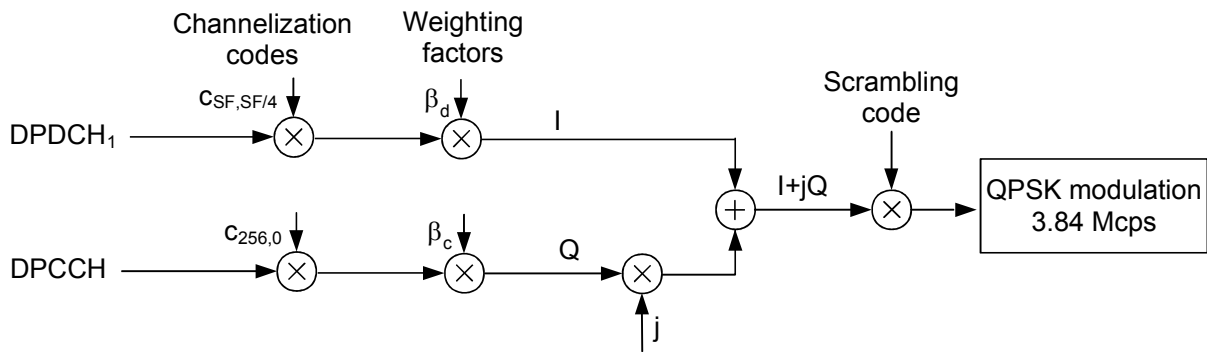
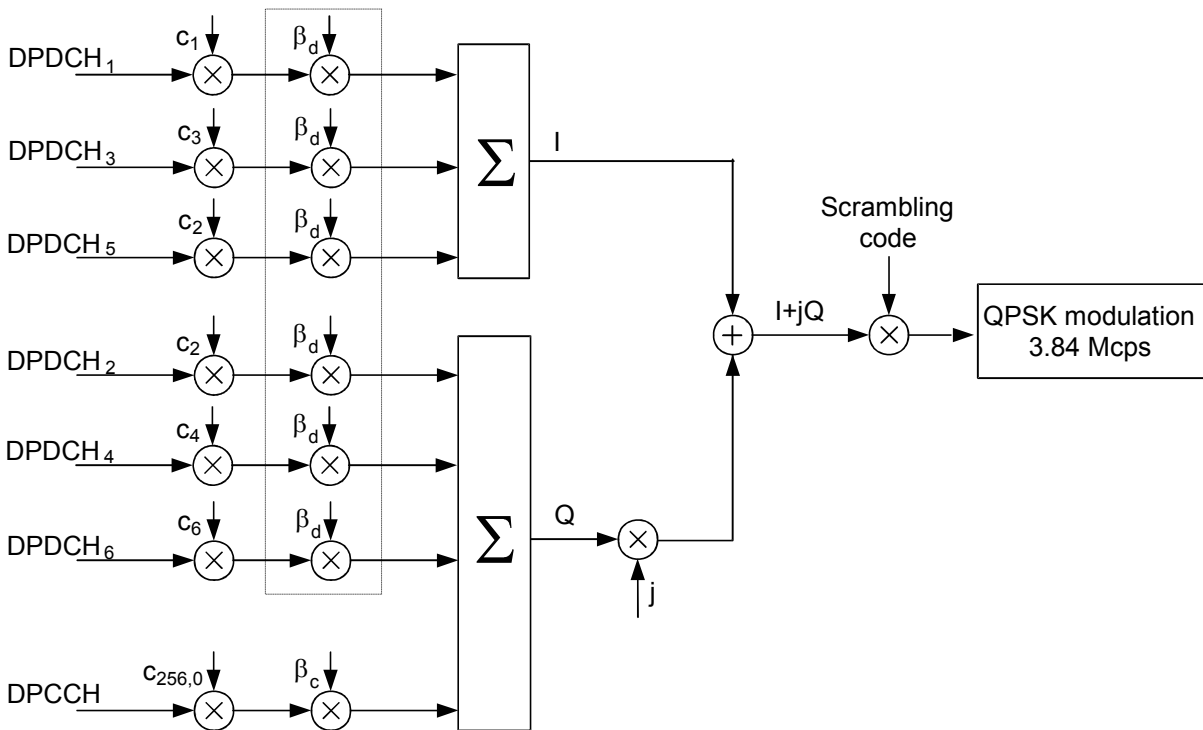

Fig. 4-28 Uplink WCDMA signal with up to 1 data channel
Fig. 4-29 Spreading of the uplink channels
The WCDMA signal is composed of one control channel (DPCCH) and  $n$  data channels (DPDCH), where  $n$  is between 1 and 6. The symbols of all channels are first spread to the chip rate by the channelization codes  $c$ , weighted by gain factors  $\beta$  and summed to form a complex-valued stream of chips. This complex-valued signal is then scrambled by a long or short scrambling code and finally QPSK modulated. For a WCDMA signal consisting of the DPCCH plus one DPDCH, the different spreading and modulation stages are shown in Fig. 4-28 below.
According to the standard, the DPCCH is always spread with code  $c_{256,0}$ , corresponding to a symbol rate of 15 kbps. In the signal configuration of Fig. 4-28, where one DPDCCH is transmitted, spreading factors of 4, 8, 16, 32, 64, 128 or 256 may be used, and the corresponding DPDCCH channelization codes are  $c_{SF,SF/4}$ . The R&S CMU sets the spreading factor implicitly after selecting the symbol rate for the first DPDCCH. With several DPDCCHs, DPDCCHn is spread by  $c_{4,k}$ , where  $k = 1$  if  $n \in \{1, 2\}$ ,  $k = 3$  if  $n \in \{3, 4\}$ , and  $k = 2$  if  $n \in \{5, 6\}$ . The corresponding signal configuration is shown in Fig. 4-29 below.
The *DPCCH Level* softkey sets the absolute level in dBm of the control part (DPCCH) of the Dedicated Physical Channel (DPCH). According to Fig. 4-29 (see p. 4.58), the levels of the  $n_{ch}$  DPDCH data channels ( $1 \leq n_{ch} \leq 6$ ) in the uplink generator signal are all equal but may be different from the *DPCCH Level*. The sum of all channel contributions must be equal to the *Total TX Power*:
Channel Settings Dedicated Channel	<p>The Dedicated Channel section provides general settings of the uplink dedicated channel including the channel type, scrambling code, frame timing relations, and power control parameters.</p> <p>Dedicated Channel Mode Configuration of the dedicated channel as a 3GPP uplink (UL) reference channel according to 3GPP TS 25.141 or as a physical channel. The parameters of both channel types are defined in the table sections below.</p> <p>Scrambling Code Type and value of the scrambling code that is used to scramble the uplink WCDMA signal; see <a href="#">Fig. 4-29</a> on p. 4.58 and background information below. The R&amp;S CMU supports scrambling codes of long type. The scrambling code value must be in the range 0 to FFFFFFF (hex).</p> <p>Remote control  <code>SOURce:RFGenerator:DCHannel:DPDCh:MODE</code>  <code>SOURce:RFGenerator:DCHannel:SCODE:VALue "&lt;hex_value&gt;"</code></p>